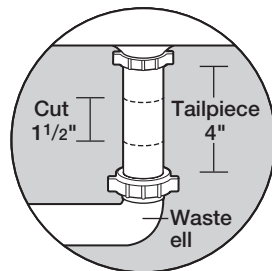

FIG. 1
1. Measure the midpoint on the vertical tailpiece between the basket strainer and the horizontal waste ell. A minimum of 4" of "exposed" tubing is required. (See Fig. 1)
2. Cut out 1 1/2" of tubing (3/4" on both sides of midpoint measurement). (See Fig. 1) Always ensure that tube ends are cut squarely and inserted to bottom of all slip joint (S.J.) sockets.
NOTE: To install the DLA-12 to a single compartment sink **without** disposal, follow instructions 1–6 above with the following exception: Once you have removed 1 1/2" of tubing from the center of the tailpiece (Fig. 1), disconnect and lower the J-bend of the trap. Insert the 3-way repair tee, then reconnect the trap. Use a bowl to catch trap water. (See Fig. 6)